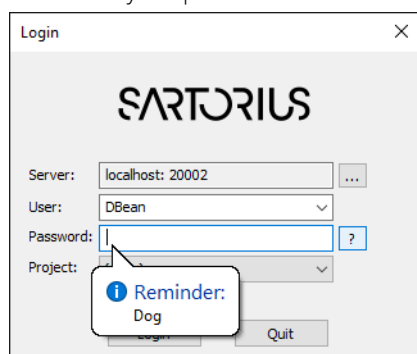

Figure 4-9: Password Reminder
4. Enter your password in the **Password** text box. Click **?** for a password reminder if needed (Figure 4-9).